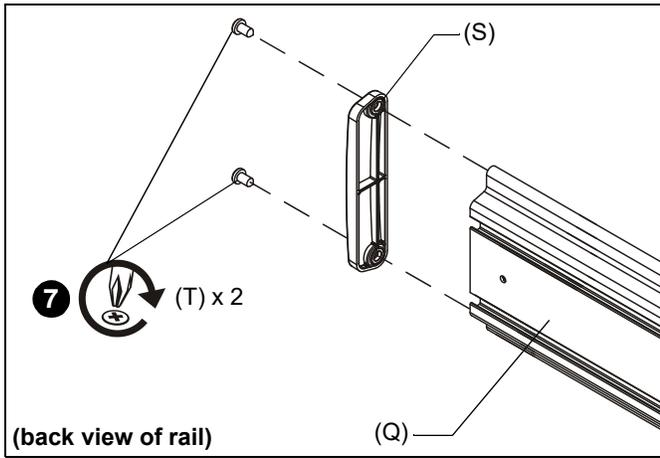

Figure 20
- Attach one end cap (S) with two 1/4-20 x 1/2" Phillips head screws (T) to end of mounting rail (Q). (See Figure 20)